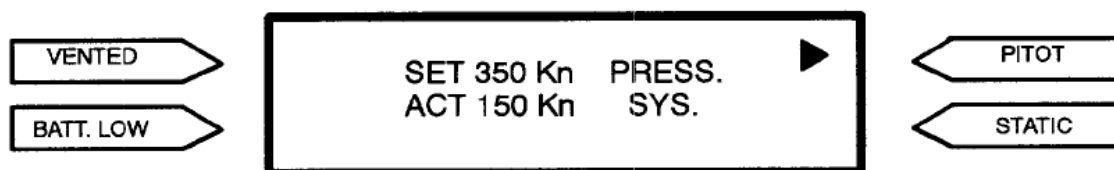

Figure 11 System Pressurisation
- N. As soon as the pressurization starts, the VENTED flag extinguishes. During this time, the display not only shows the Set Point value, but also the Actual value (*Figure 11*).